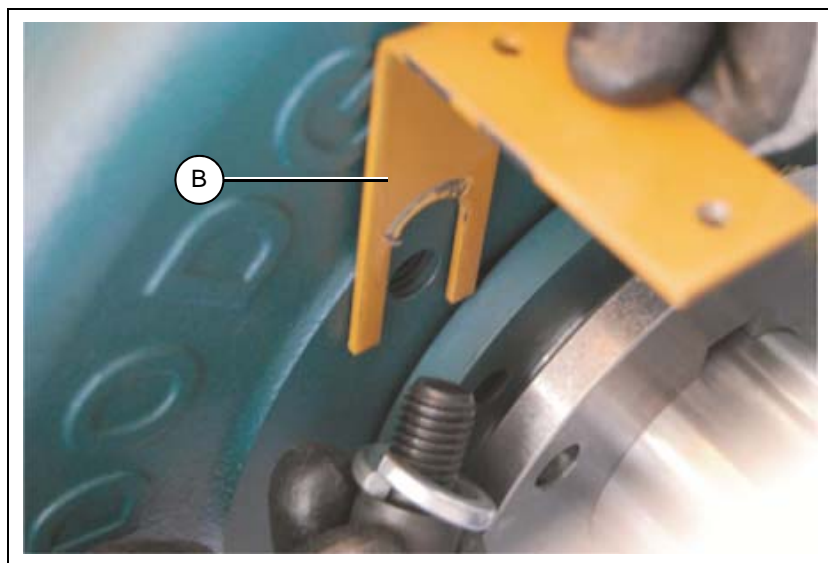

Figure 6Z
2. Install four (4) reducer shaft guard clips (B) to gear reducer using supplied bolts and lock washers. Tighten only finger tight at this time. (See Figure 6Z.)